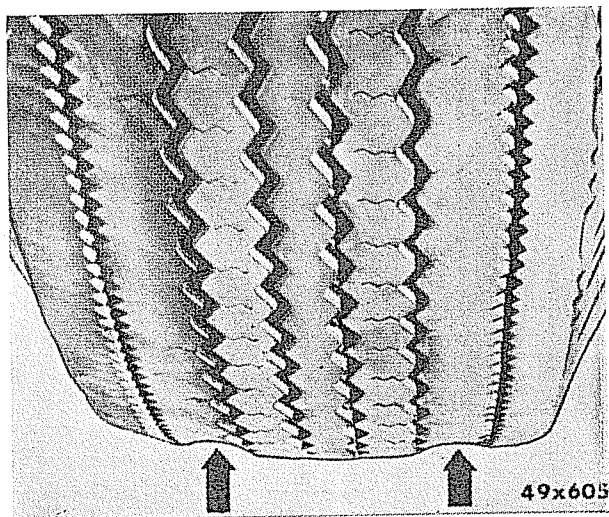

Fig. 21—Under-Inflation Wear.
- (d) Refer to Tyre Pressure, Service Standards section. Tyres are subject to under-inflation wear, as shown in Figure 21. This type of wear is characterized by excessive wear on the two tread ribs adjacent to the inner and outer shoulder ribs.